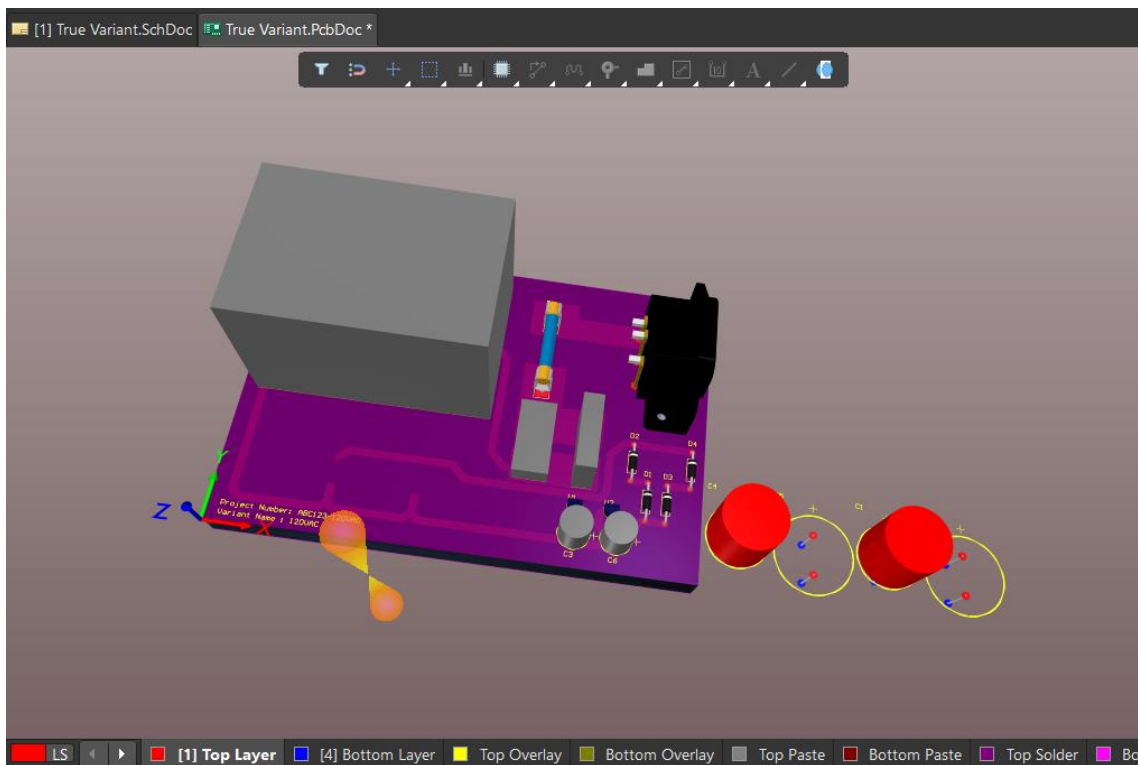

Figure 8. 120VAC Variant
34. Change to the 3D View to see the 120VAC variant, Figure 8.